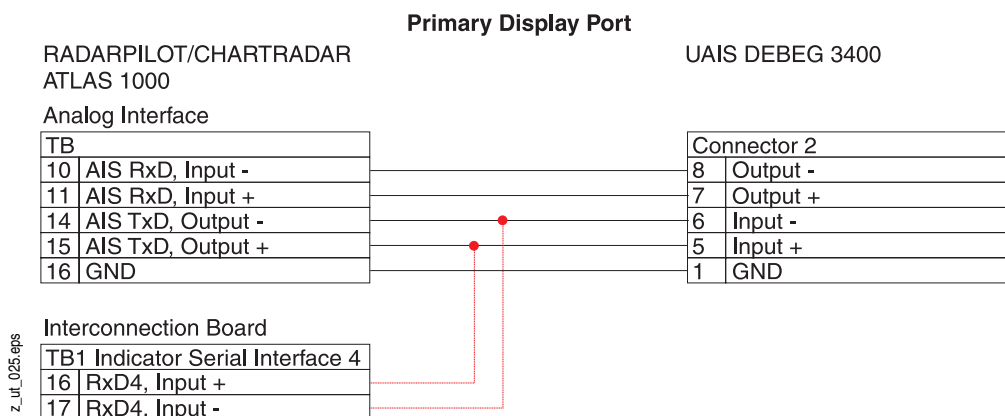

Fig. 6-1 Cable connection for the interface monitoring Radar > UAIS
2. Connect the AIS output TB14 and TB15 of the Analog Interface additionally to an indicator serial interface (TB1) of the radar. If there is a free input, this one should be used. If all inputs are used, one of them must be disconnected. Figure 6-1 shows the connection to the serial interface No. 4 as an example.
2. Connect the AIS Primary Display Port TB7 and TB8 additionally to an indicator serial interface (TB1) of the radar. If there is a free input, this one should be used. If all inputs are used, one of them must be disconnected. Figure 6-1 shows the connection to the serial interface No. 4 as an example.